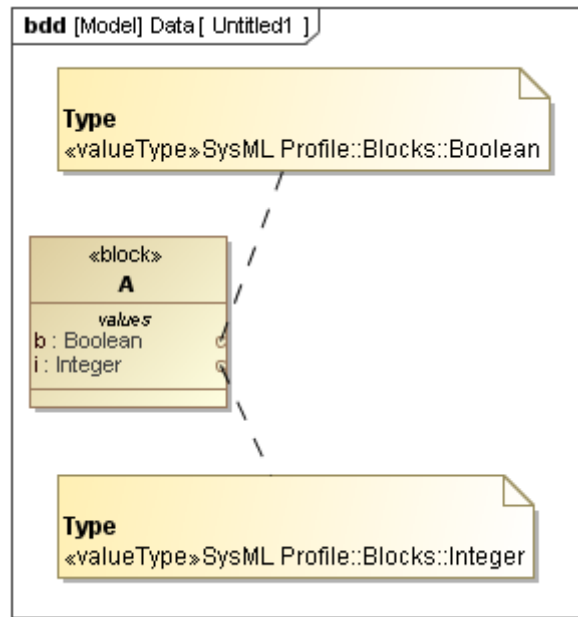

Figure 48 -- Valid Value Properties
- The the selected property(ies) will then be typed by the equivalent SysML Value Types (Figure 48).